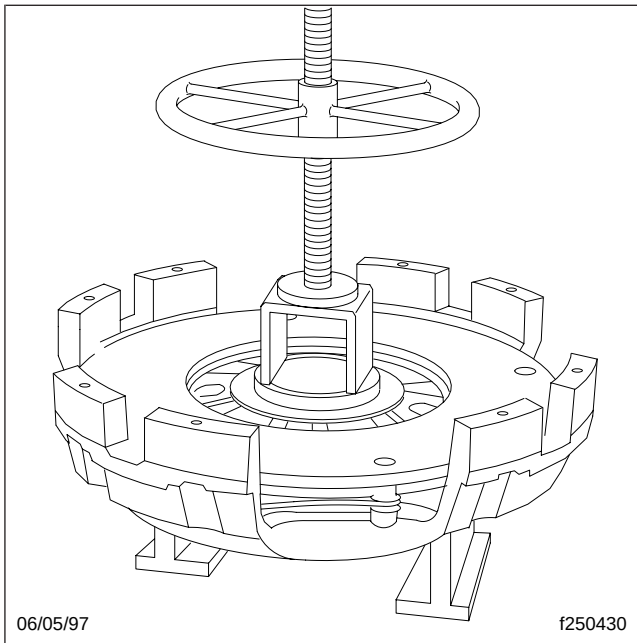

Fig. 8, Arbor Press Setup
2. Support the clutch cover in an arbor press with the release bearing facing down. When setting up the arbor press, allow at least 1 inch (25 mm) clearance for both movement of the release bearing and access to install shipping bolts. See **Fig. 8**.
8. Tighten the eight mounting capscrews progressively, in a crisscross pattern as shown in Fig. 8. Final torque is 40 to 50 lbf·ft (54 to 68 N·m).
25.00**Clutch Installation****Fig. 7, Tap Aligning Tool****Fig. 8, Tightening Sequence****NOTICE**